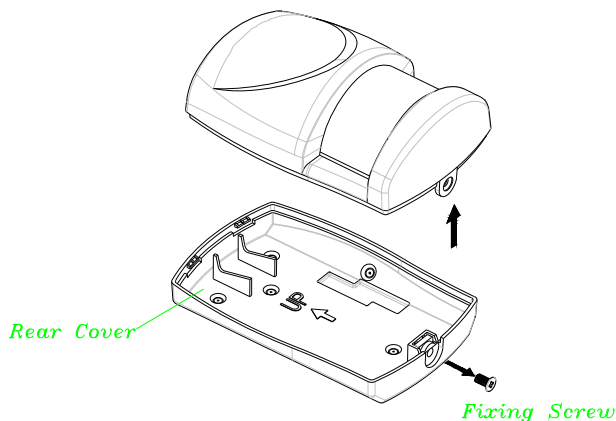

FIGURE 2
- Undo and remove the fixing screw from the bottom edge of the detector. Carefully pull the bottom edge of the detector away from the rear cover and then slide down to release the top clips. (FIGURE 2)